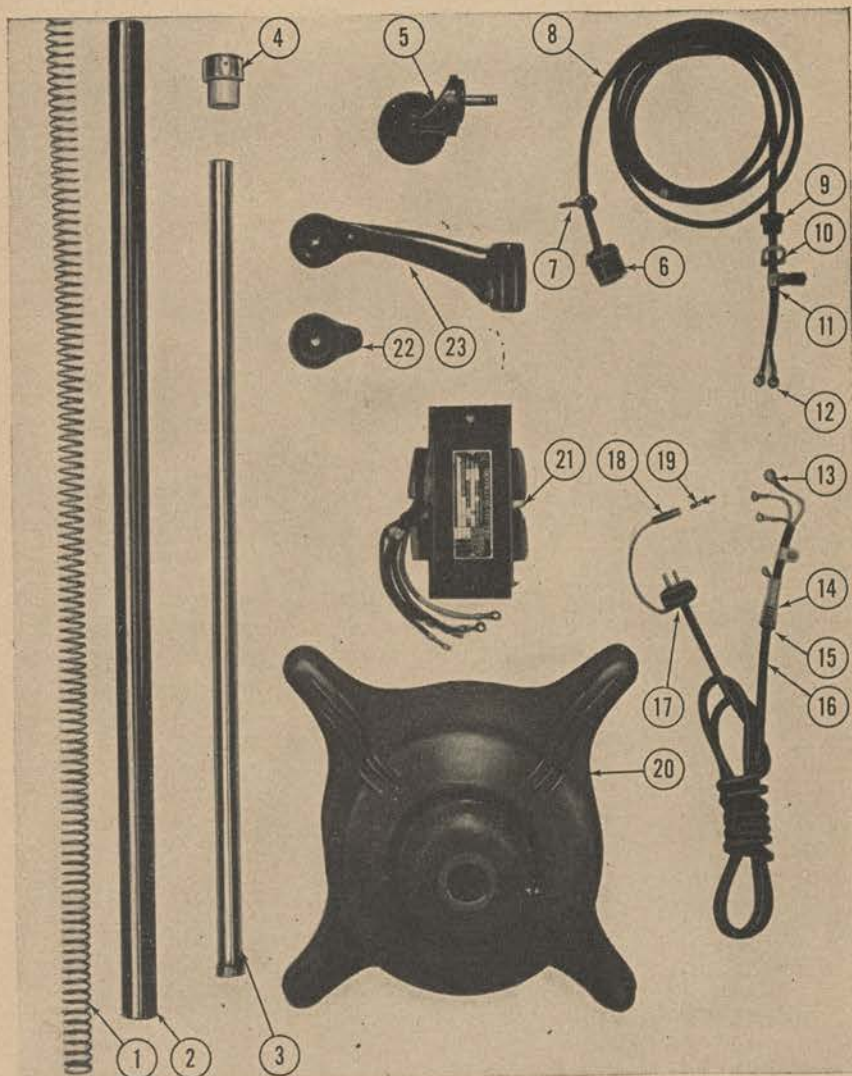
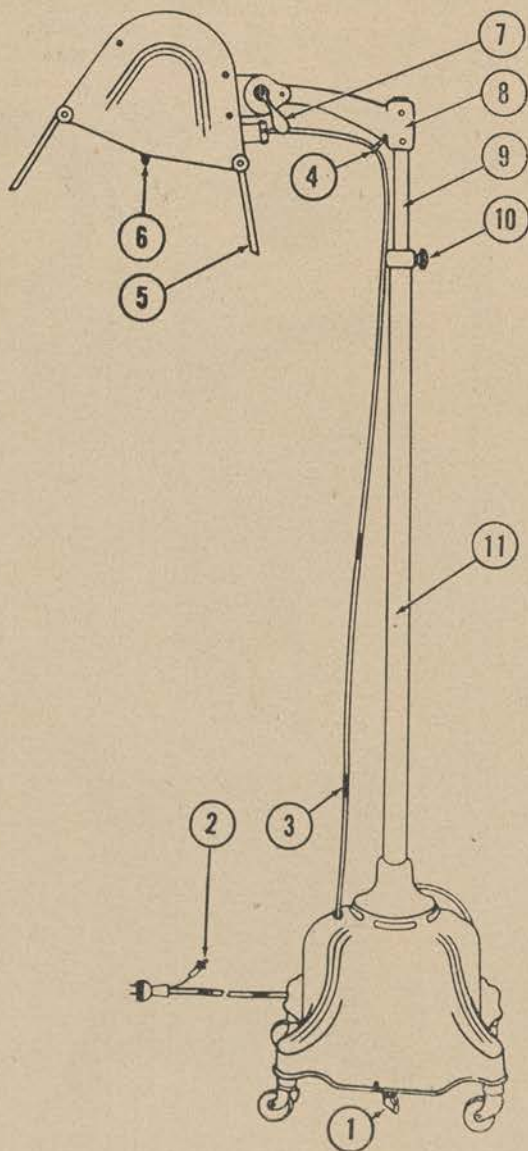

Figure 4. Parts for lamp, therapeutic, mercury arc, air-cooled, mobile, complete, 110-volt, 60-cycle, General Electric model F.
Figure 5. Lamp, therapeutic, mercury arc, air-cooled, mobile, complete, 110-volt, 60-cycle, General Electric model F.
d. Assembling the General Electric model. (1) Set the base assembly on its four casters.
(2) Make up the upright assembly by placing the adjustable upright spring, 7R03948 (fig. 4), inside the stationary upright, 7R03942 (figs. 4 and 5). Press the flanged end of the adjustable upright, 7R03944 (figs. 4 and 5), against the spring and force it about halfway into the stationary upright. Slip the stationary upright collar, 7R03946 (fig. 4), over the adjustable upright, and fasten it to the stationary upright by tightening the setscrews provided. Lock the adjustable upright by tightening the adjustable upright locking knob, 7R03950 (fig. 5).
(4) Attach the supporting arm, 7R03952 (fig. 5), with the burner housing attached, by slipping it over the end of the adjustable upright. Line up the holes in the supporting arm with those at the end of the adjustable upright. Fasten the supporting arm in place by tightening the two fillister head screws provided.
(5) Insert the cord burner hook, 7R03938 (fig. 5), into the hole on the under side of the supporting arm, and secure it in place by tightening the setscrews provided.
(6) To place the burner in the burner housing, proceed as follows: